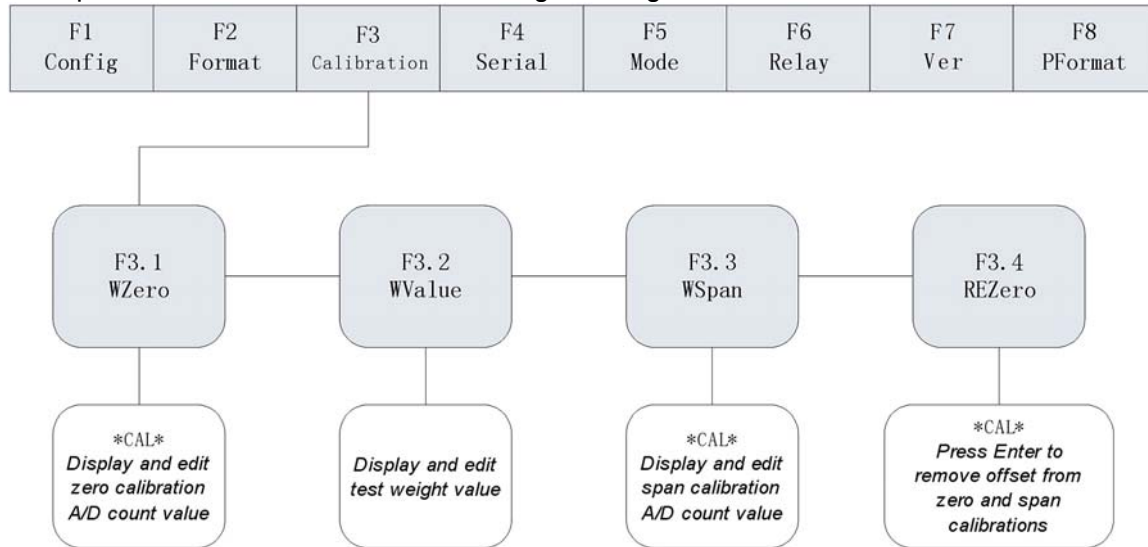
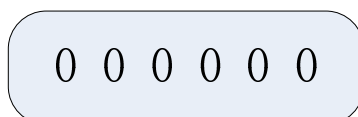
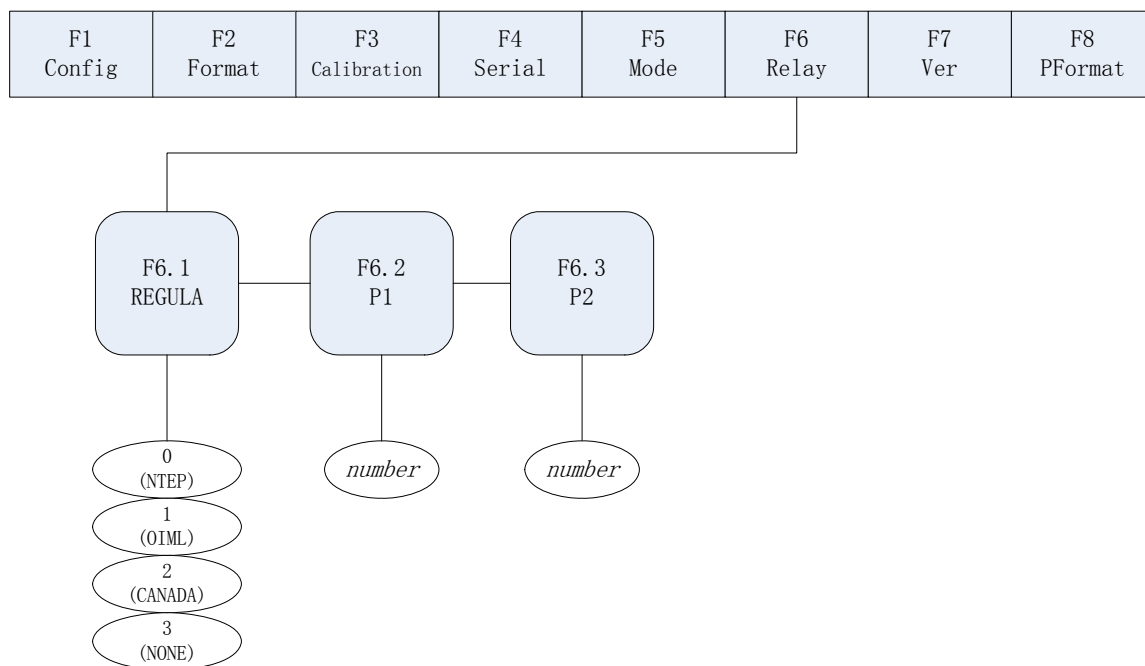

Fig. 4-1 F3(Calibration) Menu
Fig. 4-2 Editing Procedure for Numerical Values
Fig. 6-1 Relay Output Menu
- (1) Set indicator to the Configuration mode (display shows “F 1”) and remove all weight from the scale platform. If the test weights require hooks or chains, place the hooks or chains on the scale for zero calibration.
- (2) Press $\blacktriangleright$ until the display shows “F 3” (see Fig. 4-1). Press $\blacktriangledown$ to go to zero calibration mode. Display shows “F 3” (see Fig. 4-1).
- (3) When display shows “F 3.1”, there are 2 options :
- Press $\blacktriangledown$, display shows the A/D count of the original zero calibration. It can be edited following Fig. 4-2. When complete, press $\bigcirc$ to save and to go to the next menu. Display shows “F 3.2”.
- (4) When display shows “F 3.2”, place test weight on the scale and press $\blacktriangledown$ to show the test weight value. Follow Fig. 4-2 to input the test weight value, then press $\bigcirc$ to save the value and go to the next menu. Display shows “F 3.3”.
- (5) When display shows “F 3.3”, there are 2 options :
- Press  to show the A/D count of the original span calibration. It can be edited following Fig. 4-2. When complete, press  to return to F3.4 Menu. Display shows "F3.4".
- (6) F 3.4 Menu is used to remove a calibration offset when hooks or chains are used to hang the test weights.
- (3) Press when display shows “F5.2”. Display shows the code number of the required count items. Following the procedure in Fig. 4-2 to input and edit the code. The allowable selected numbers are 0 to 99. Press to save the code number and to go to the next menu. The display shows “F5.3”.
- (4) Remove all the weight from the scale platform when display shows “F5.3”. Press to zero the scale. Display shows “CAL” while processing the zeroing operation. When complete, display shows “F5.4”.
- (5) Press when display shows “F5.4”. Display shows the sampling quantity of the count items. Use , keys to specify the sampling quantity. Place the same quantity of the sample count items onto the scale platform as the input sampling
- (6) Press  when display shows "F5.5". Display shows "CAL" while processing the average weight setting. When complete, there are 2 possible outcomes :
- (7) There are 2 options when display shows "F5.2".
- Repeat (3) to (6) if another average weight setting is required.
- (1) Set indicator to Configuration mode (display shows "F1").
- (2) Press  until display shows "F6" (see Fig. 6-1). Press  to go to the Relay Output Menu. Display shows "F6.1"
- (3) When displays shows "F6.1", press  to go to the F6.2 Menu and display shows "F6.2".
- (4) When display shows "F6.2", press  and display shows the value of Relay 1 setting. Edit Relay value according to editing procedures in Fig. 4-2. When complete, press  to store the value and return to F6.3 Menu. Display shows "F6.3".
- (5) When display shows "F6.3", press  and display shows the value of Relay 2 setting. Edit Relay value according to Fig. 4-2. When complete, press  to store the value and return to F6.1 Menu. Display shows "F6.1".
- (6) Turn off the J1 switch to exit from the configuration mode and enter into weighing mode.
- (3) When display shows "F 7.1", press . Display shows the current consecutive number "nnnnnn". Edit numbers according to Fig. 4-2.
- (4) After editing, press to return to F7.2 Menu. Display shows "F7.2"